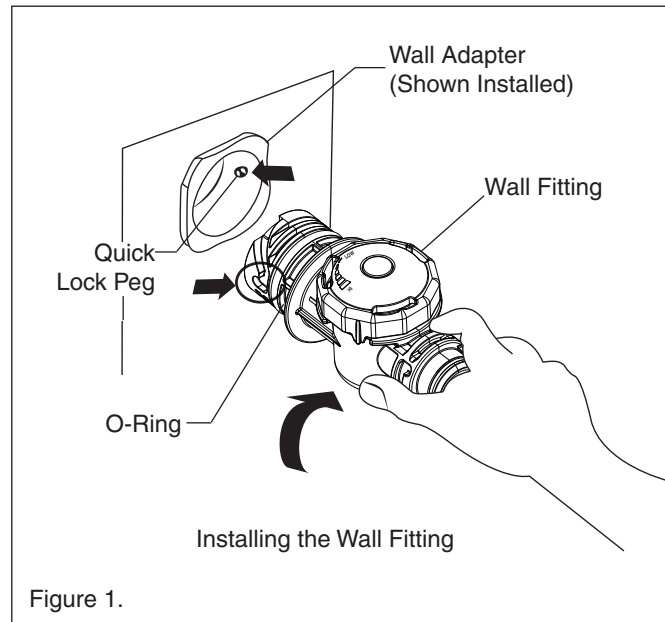

Figure 1.
4. Insert wall fitting adapter into the dedicated 1-1/2" NPT threaded return line. Hand tighten until snug. **See figure 1.**
5. Align wall fitting with the quick lock pegs inside the wall adapter. Push the wall fitting into the wall adapter until it bottoms out. Twist 1/4 turn clockwise to lock the wall fitting. **Pull gently outward to engage quick lock pegs.** See figure 1.